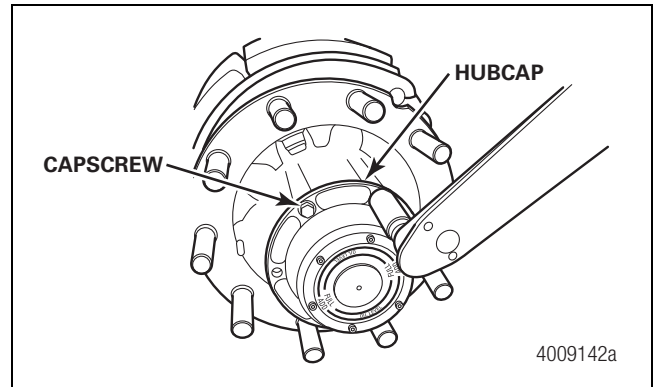

Figure 31
10. Once end play is within specifications, install the hubcap using a new black hubcap gasket. Install the capscrews and tighten them in a crisscross pattern to 15-30 lb-ft (20-41 N•m). Figure 31.